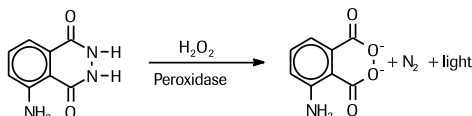

Fig. 1: Reaction scheme
In the presence of hydrogen peroxide (H₂O₂), horseradish peroxidase (HRP) catalyzes the oxidation of diacylhydrazides like luminol (see figure 1). An activated intermediate reaction product is formed, which decays to the ground state by emitting light (1).